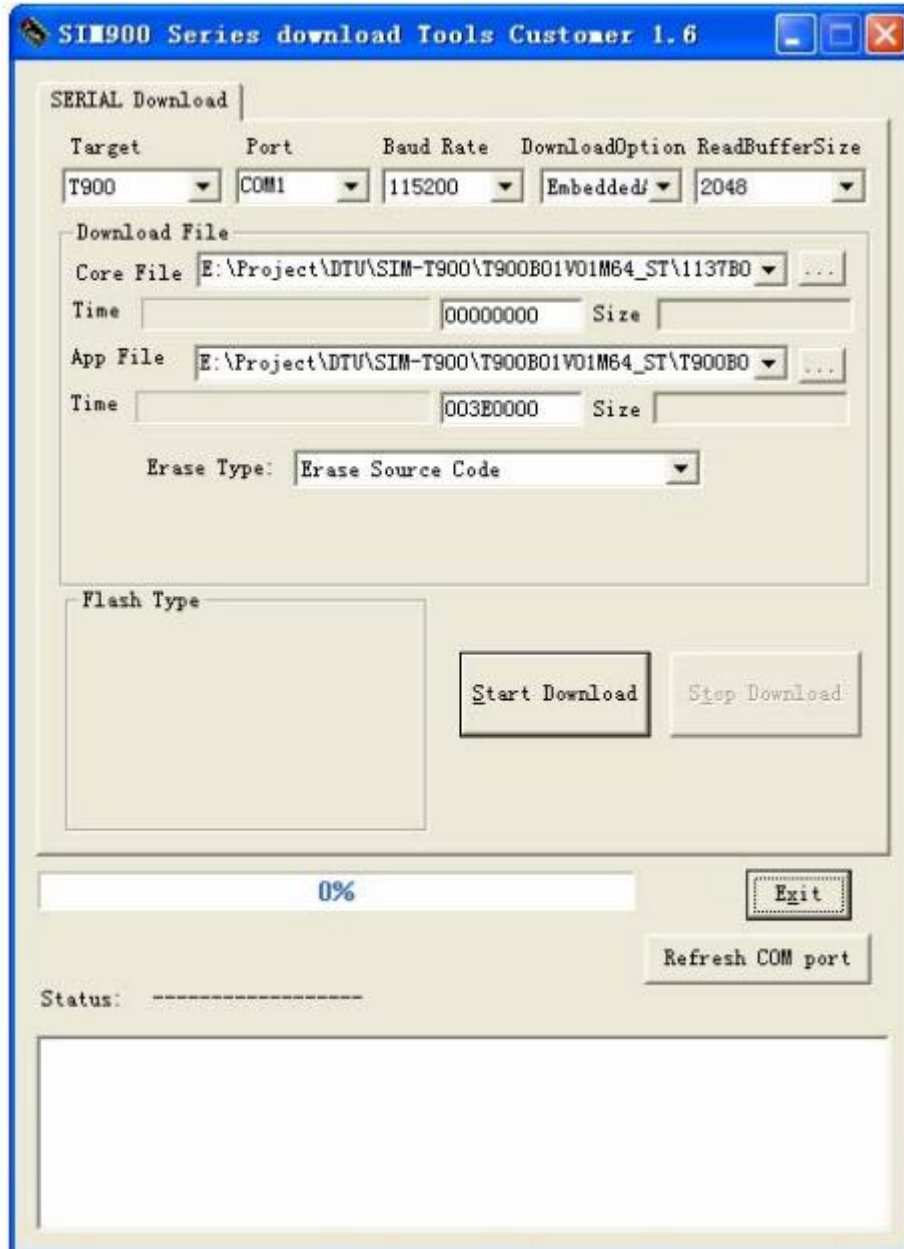

Figure 20: Main UI
- Open the tools, the main operation interface as the figure 20 shows: